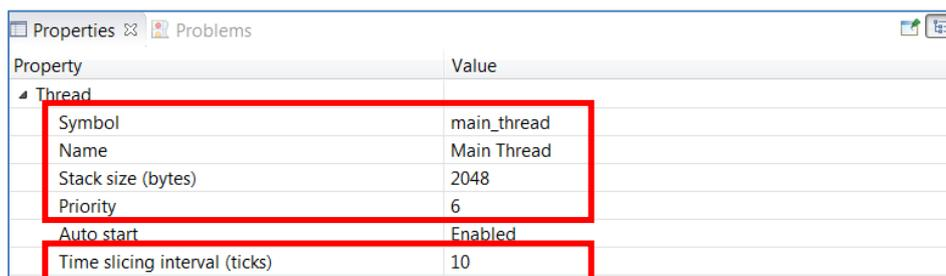

Figure 27 Configure Main Thread Properties
12. Edit the Properties to match Figure 27.